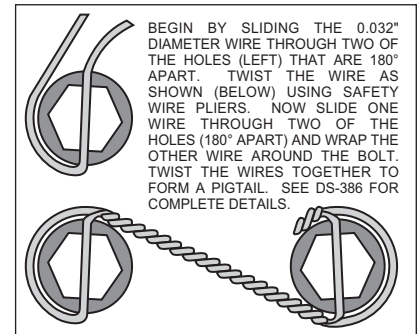
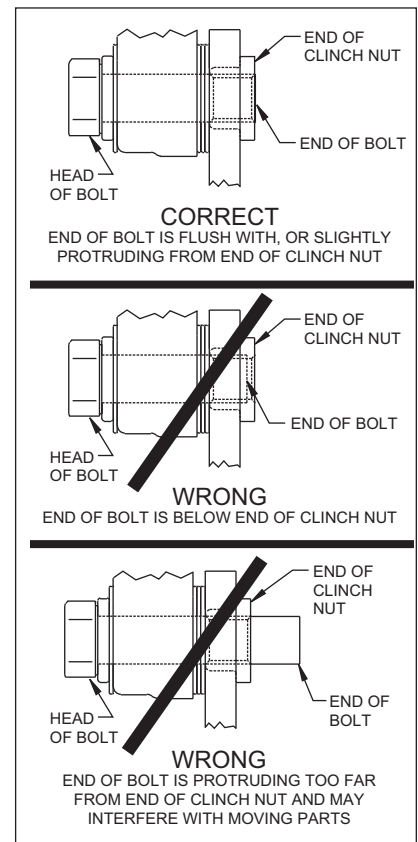

Figure 6. Safety Wire Diagram
Figure 7.
- With the slot pointing upward and the mounting ears pointing towards the rear of the vehicle, install the caliper mounting bracket (1) to the housing flange using the stock Original Equipment Manufacturer (OEM) bolts and nuts. Stock OEM hex nuts that retain the bracket (1) should be on the wheel side of the bracket. Apply red *Loctite*® 271 to the stock OEM bolt threads and torque to OEM specifications. **NOTE:** Make sure the heads of the caliper mounting bracket insert nuts are **FACING OUTWARD TOWARDS THE WHEEL.**
- Bolt the hat (2) to the rotor (3) using washers (4) and bolts (5). Torque bolts (5) to 180 **in-lb.** Safety wire bolts (5) using standard 0.032 inch diameter stainless steel safety wire as shown in Figure 6. Please refer to Wilwood's data sheet DS-386
- Align the correct hole pattern in the hat (2) with the stud pattern on the axle flange. **NOTE:** Some OEM and after market axles come with stud sizes larger than 0.50" diameter. Verify stud size and have a qualified machine shop drill the hats to the correct size. Slide the hat/rotor assembly (2 and 3) over the wheel studs and against the axle flange face.
- NOTE:** Please reference the caution statement at the beginning of the assembly instructions. WITH THE BLEED SCREWS POINTING UP, mount the caliper (6) over the rotor (3) and onto the caliper mounting bracket (1) using washers (7) and mounting bolts (8). View the rotor through the top opening of the caliper. The rotor should be aligned in the center of the caliper. If not, adjust the caliper by using 0.032 inch shim washers (9), placing them between the caliper mounting bracket (1) and the caliper (6). Add as many shim washers (9) as necessary to achieve the correct alignment. **NOTE:** The end of the bolt must be flush with or slightly protruding from the head of the clinch nut. See Figure 7. Place spare shims (9) between washer and caliper mounting ear to achieve the proper mounting fastener configuration. Always use the same amount of shims on both the top and bottom caliper mounting bolts (8). Apply red *Loctite*® 271 to the mounting bolt threads (8), torque bolts to 30 ft-lb. Safety wire the caliper mounting bolts (8).
- Position the Wilwood disc brake pads (10) into the caliper (6) and fasten with cotter pin (11). Steel backing plate side of brake pad should face the caliper pistons.